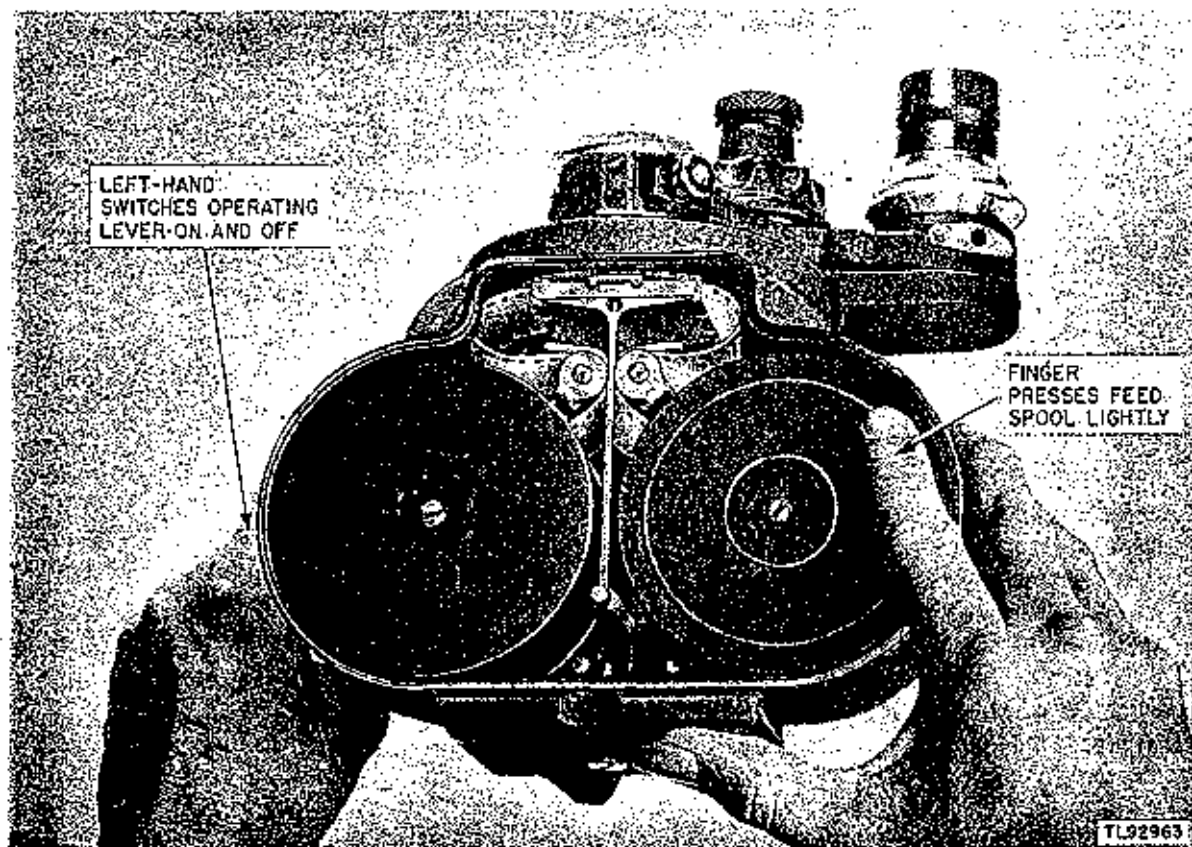

Figure 29. After loading, Camera PH-330-(\*): testing for performance.
n. With the camera door still open, quickly press the operating lever on and off (fig. 29). Keep a finger pressed lightly on the feed spool (fig. 29) to prevent backlash and fogging of the unexposed film. If the loops do not buckle or alter their shape during this test run, the camera is threaded properly. Replace the camera door and turn the door latch to the CLOSED position. If the camera door does not fit easily in place on the camera housing, the gate arm is not fully closed.